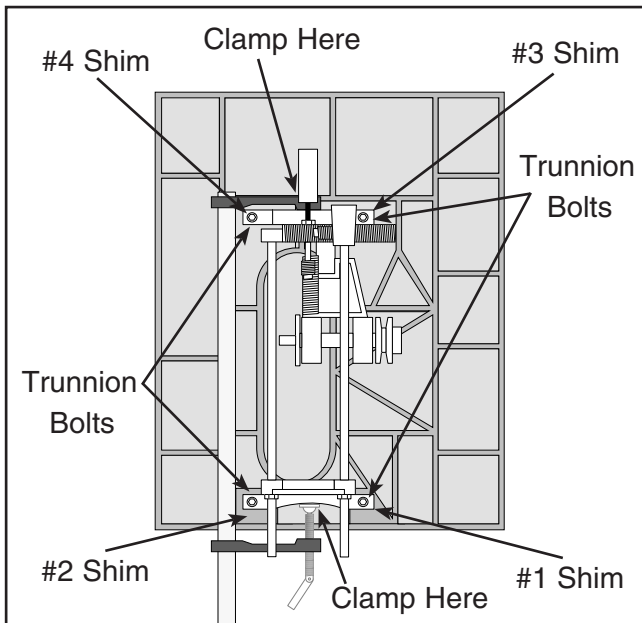

Figure 61. Underside view of table/trunnion assembly.
10. To maintain the trunnion assembly as one unit, place a bar clamp across the entire trunnion assembly as shown in **Figure 61**.
1. Loosen the trunnion bolts (**Figure 61**).